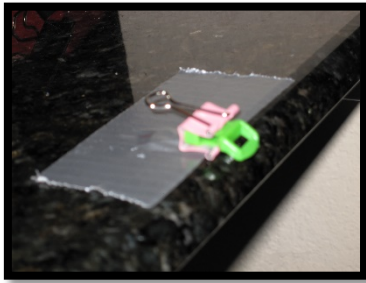

Figure 4.5
- Clip the “Flat” buckle into the binding clip fixed to the table, with the strap bar hanging out, top side up (Figure 4.5).